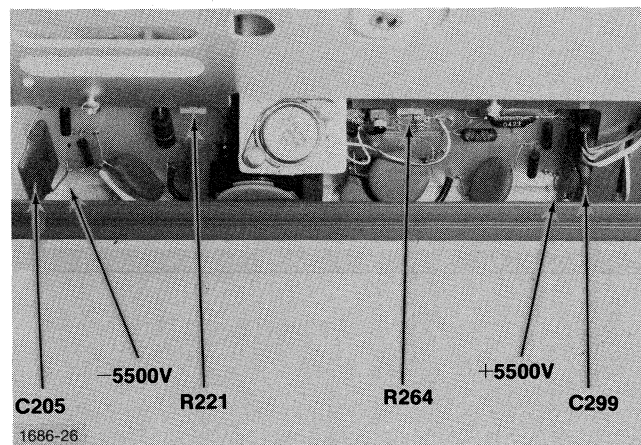

Fig. 4-3. High voltage test point and intensity locations.
- (1) Set voltmeter to read -5500 V and connect it between the -5500 V test point (shown in Fig. 4-3) and ground.
- (2) ADJUST R264 for a voltmeter reading of -5500 volts.
- (3) Set the voltmeter to read $+5500\text{ V}$ and connect it between the $+5500\text{ V}$ test point (shown in Fig. 4-3) and ground.
- (4) CHECK for reading between $+5225$ volts and $+5775$ volts ($+5500$ volts $\pm 5\%$).
- (1) Observe the face of the Hard Copy Unit crt while the COPY button is depressed. ADJUST R221 (Intensity, Fig. 4-3) on the HV assembly clockwise until dark portions of the crt display just begin to fill in. Reduce the intensity until dark portions are not visible.